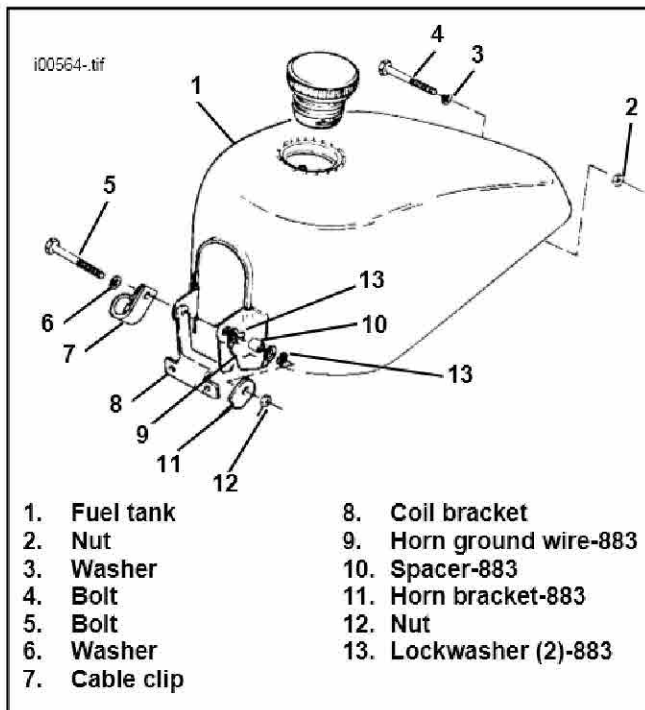

Figure 1. Fuel Tank Assembly
2. See Figure 1. Remove the two bolts with hardware (2 through 13) that attach fuel tank to frame. Remove fuel tank (1).
11. See Figure 1. Install fuel tank and secure to frame with bolts and hardware (2 through 13). Tighten fuel tank mounting bolts to 19 ft-lbs. Connect fuel supply hose to fuel valve and install new hose clamp.